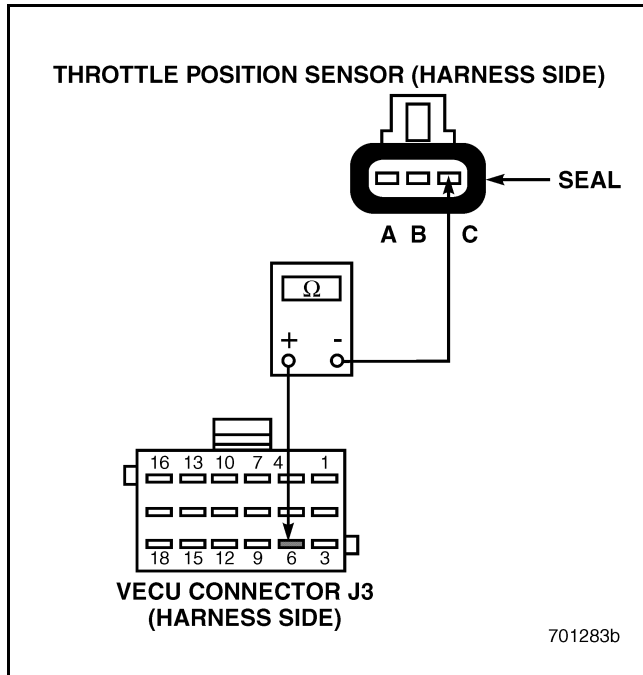

Figure 558
2. Disconnect the Throttle Position (TP) Sensor.
4. On the harness side of the TP Sensor connector, check for continuity between VECU connector J3 pin 6 and TP Sensor connector pin C (see Figure 558).